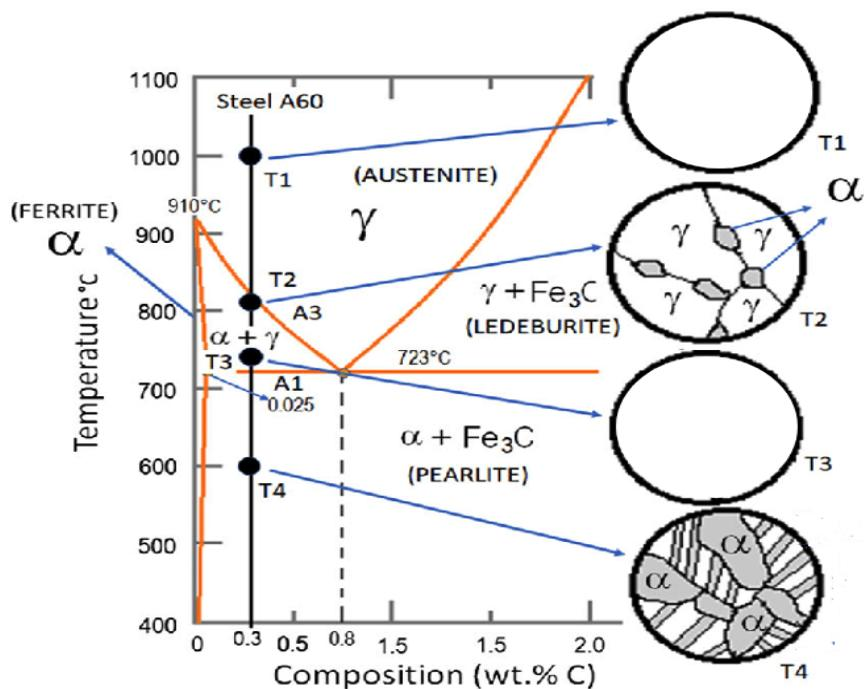

Figure 2.1: Fe-C phase diagram up to 2.0% carbon.
- (d) Based on the Fe-C phase diagram in Figure 2.1, answer the following questions below: